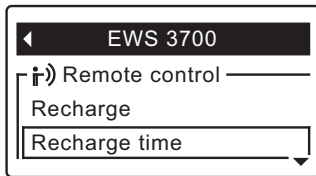

FIG. 64
3. Press the DOWN (▼) button to scroll through the menu options until **Recharge time** is highlighted in a box (See Figure 64).